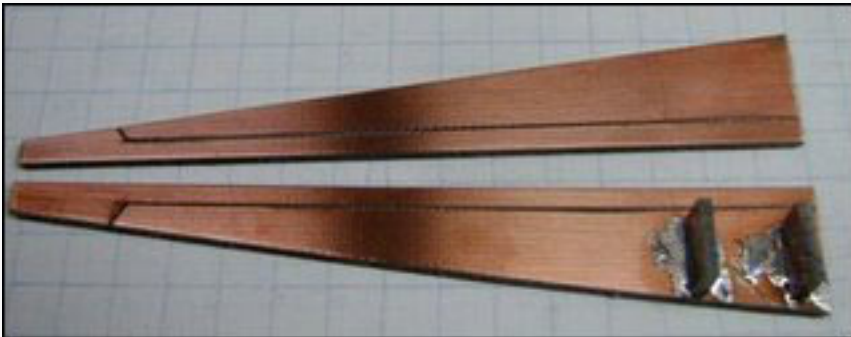

Figure 4. The two rectangular spacers are soldered to one board.
3. Solder the small rectangles to one of the blades (**Figure 4**). Be sure that they do NOT connect to the thin trace along the edge.